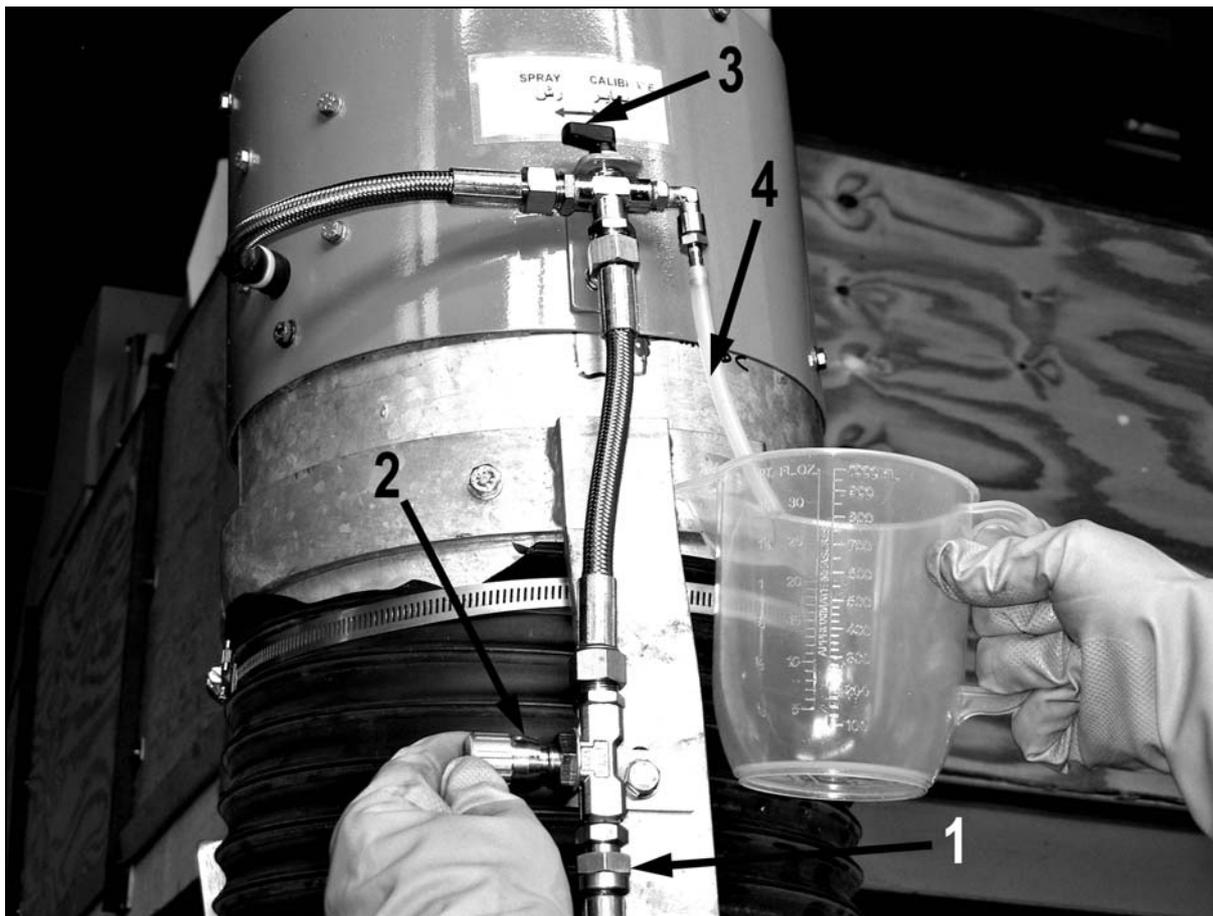

Fig. 2 – Flow Calibration
3. Set the **Calibration** valve (3 in Fig. 2) on the side of the air outlet behind the atomiser to CALIBRATE.
6. Place or hold a bucket or other large container under the white plastic tube (4 in Fig. 2).connected to the **Calibration** valve
1. Ensure that there is no orifice disc fitted in the feed to the atomiser (inside housing 1 in Fig. 2).
2. Set the needle valve (2 in Fig. 2) to approximately mid-position.
5. Repeat steps (3) & (4) until the correct flow rate is obtained.
2. Remove the hose fitting from the restrictor housing (1 in Fig. 2) and fit the appropriate disc inside (ensure that any existing disc is removed first and that the non-return valve remains in position inside the housing).
6. If the flow rate is too high, replace the orifice disc with the next smaller size. If the rate is too low, replace the disc with the next larger size. Repeat step (5).